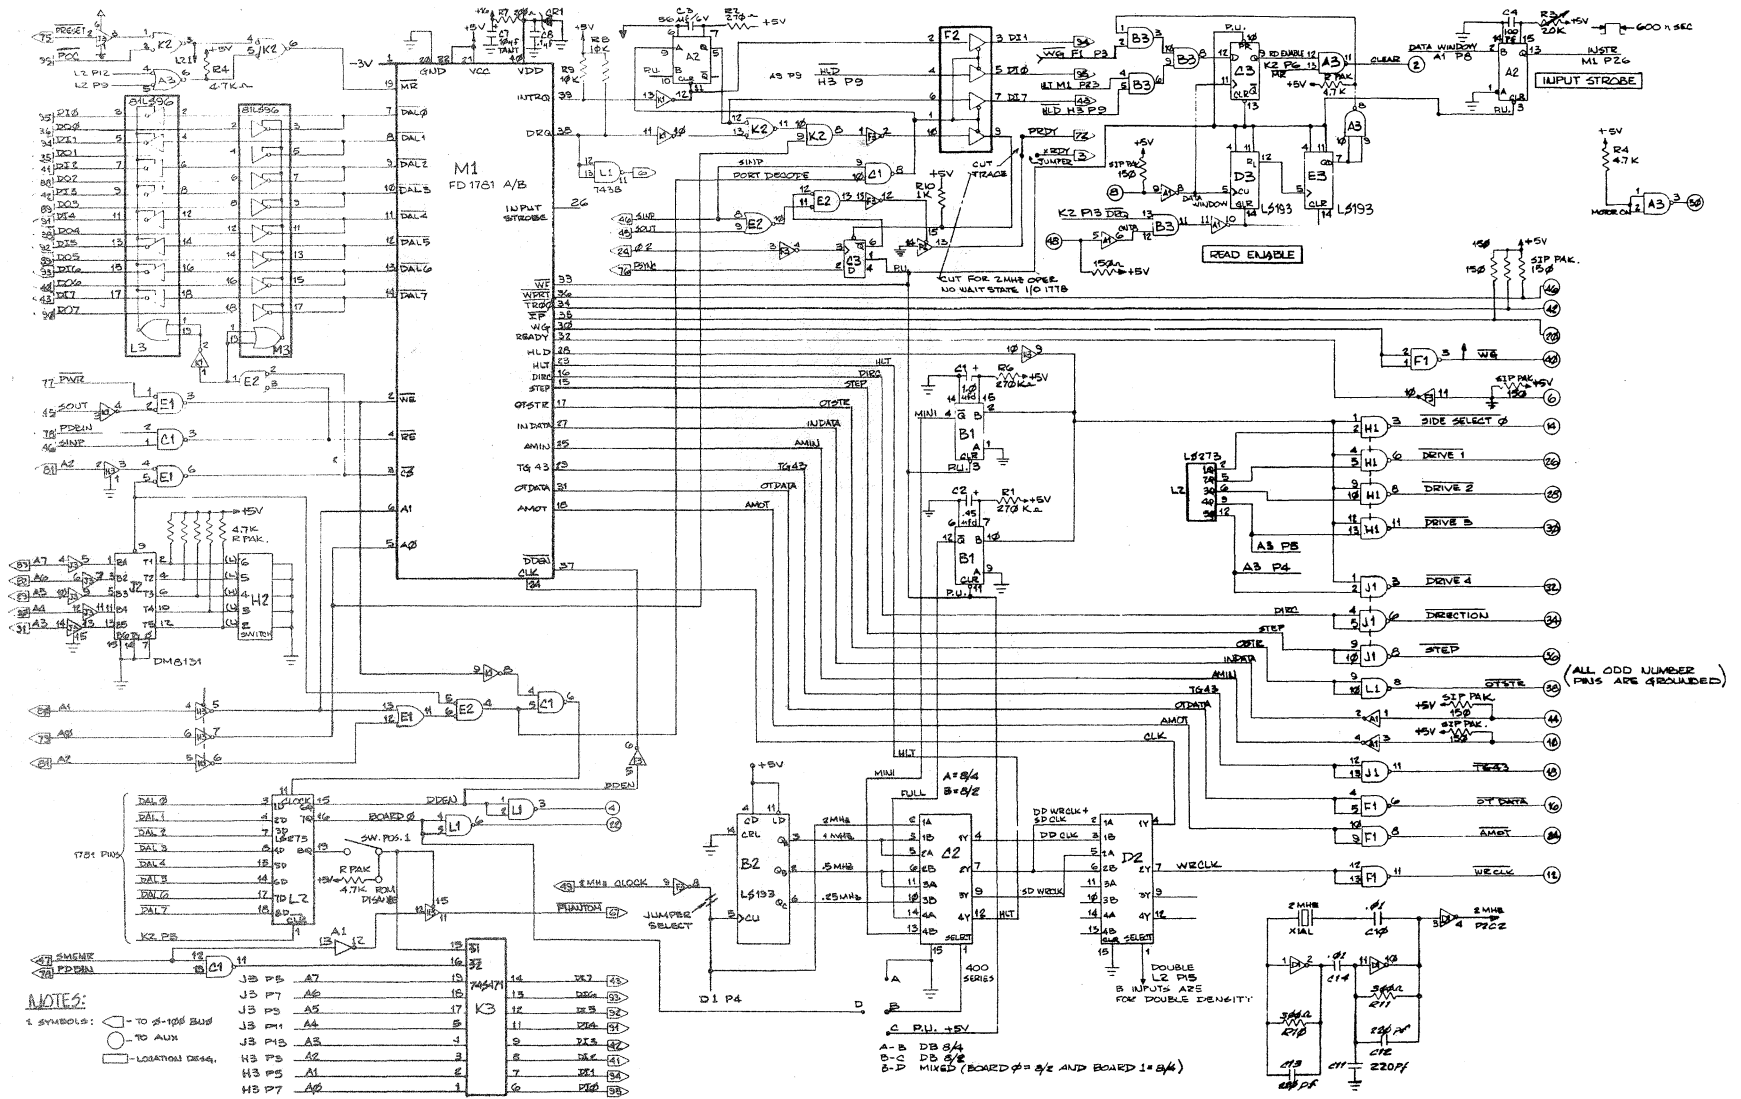

Figure 7-1 - Main Disk Controller - 800741 - Logic Diagram
7.01 Figures 7-1, 7-2 and 7-3 will furnish the user with schematic diagrams of the Main and Auxiliary Disk Controller. Tables 7-1, 7-2 and 7-3 are replaceable parts lists of Main and Auxiliary Disk Controller pc assemblies indexed by reference designator appearing on the respective schematic. Enough information is furnished so the maintenance technician should be able to purchase replaceable parts from a local supplier or make a substitution if necessary. Disk Controller PC Assemblies, ROMs and I/O cables should be ordered directly from Dynabyte Customer Support Service.